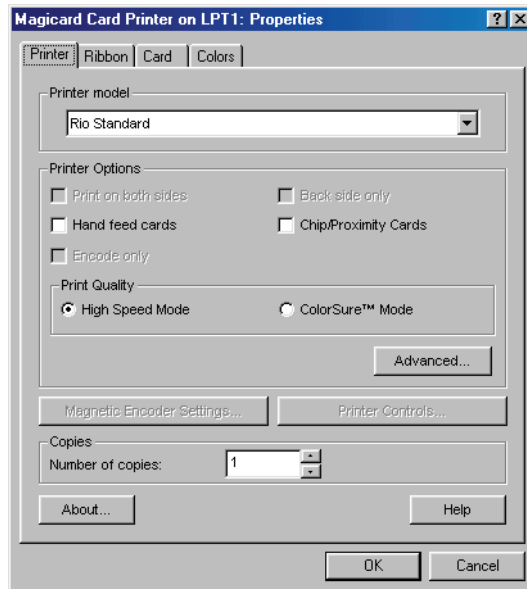

Figure 9-6: Printer Configuration Options – Printer Tab
- Click the  button. The printer control window appears displaying the printer configuration options beginning with the Printer Tab (see Figure 9-6).
6. Based on this selection, certain options are enabled in the “Printer Options” and “Print Quality” fields according to the features within the printer (see Figure 9-6). Of these options, enable those that apply to your printer’s capabilities and your printing requirements. For example, if you have a Tango Printer (capable of printing on both sides of a card), you may want to enable the “Print on both sides” feature for two-sided card printing.